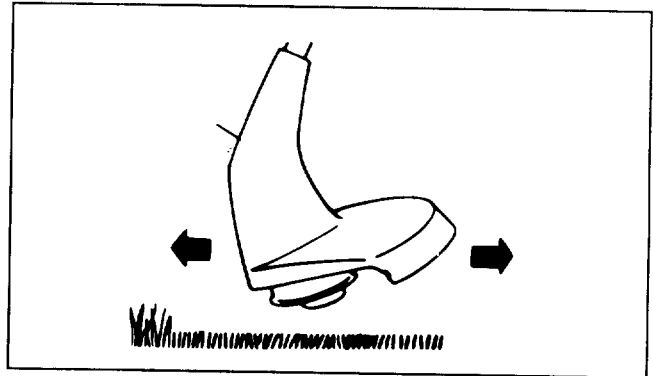

Figure 7
5. Slowly move the trimmer into and out of the area being cut, maintaining trimmer at desired cutting height. This can be either a forward-backward or side-to-side motion (Figs. 7 & 8). Maintain top speed for best cutting.